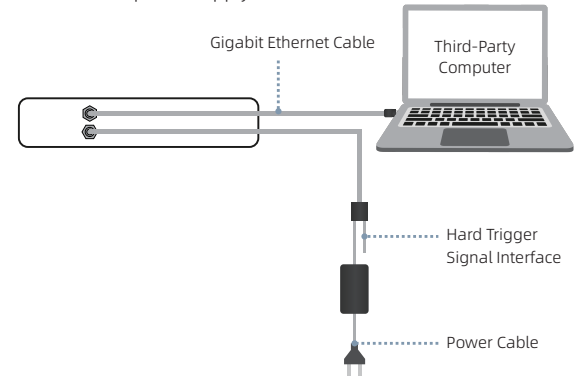

Figure 3 Cable Connection Diagram
- Refer to *Figure 3* to connect the power cable and Ethernet cable.